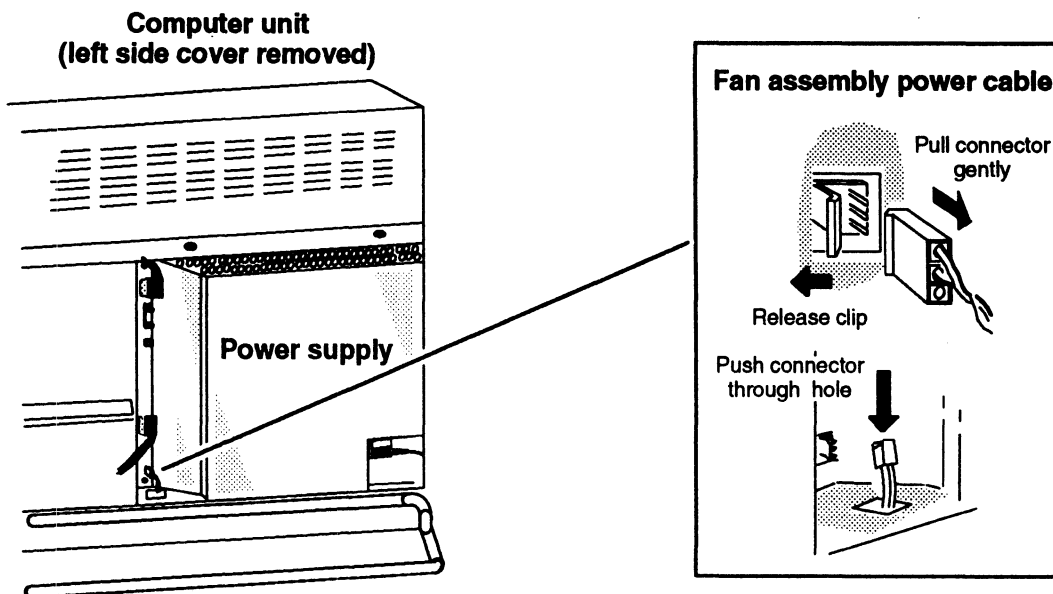

Figure 10-1 Unplugging the Fan Assembly Power Cable from the Power Supply
1. Unplug the fan assembly power cable from the power supply, and push it down through the hole in the computer unit as shown in Figure 10-1.